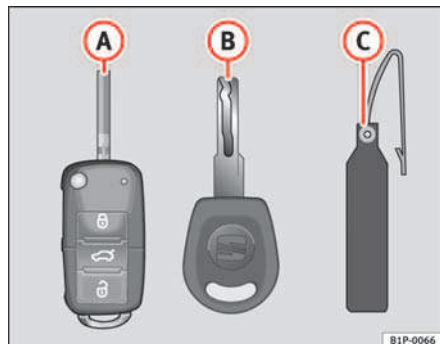

Fig. 63 Set of keys
- one remote control key ⇒ fig. 63 **A** with folding key bit,
Spare keys cannot be issued without the key number on the key tab ⇒ fig. 63 **B**. Therefore: